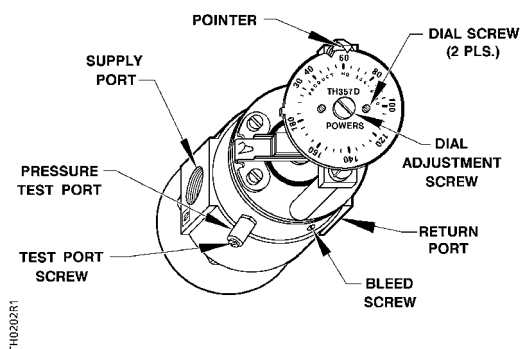

Figure 8. Limitem Cover Removed.
2. With a screwdriver, turn dial adjustment screw (Figure 8) to change to the desired setpoint.
3. If a permanent return air gauge is not installed, use the pressure test port. See Figure 8 for its location.
1. Loosen the dial screws. (Figure 8)